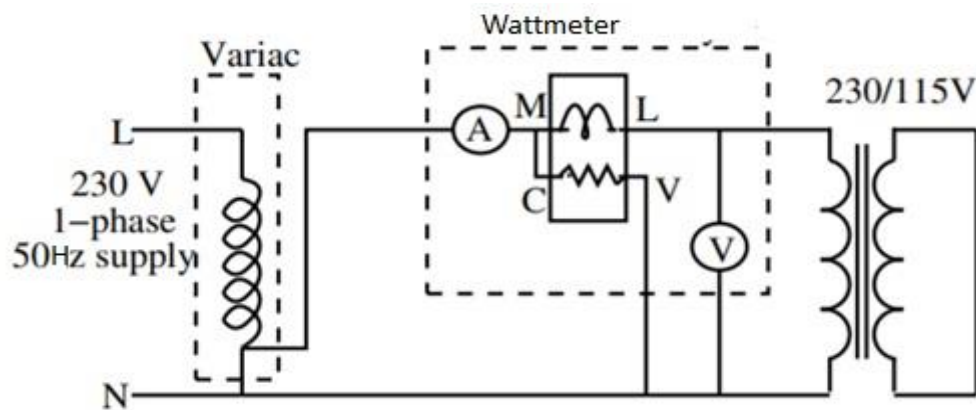

Fig2. Circuit Diagram for Short Circuit Test.
1. Make the connections as per the circuit diagram in fig. 2.